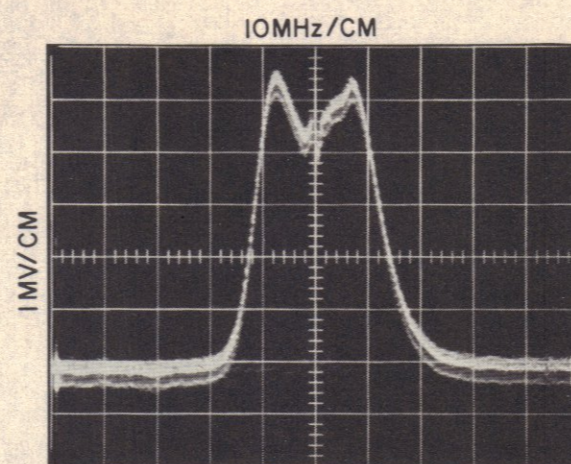
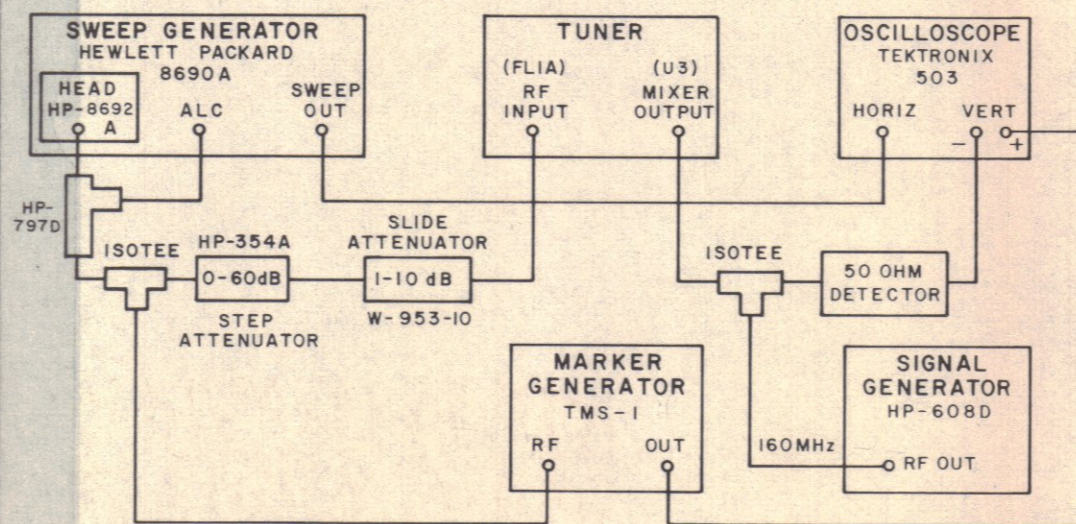

Figure 4-1e. Typical Tuning Head Overall Response
Figure 4-1d. Equipment Connections, YIG Filter and LO Tests
- (1) Determine that adequate output power is available from the VFO by performing the procedure as stated in paragraph 4.5.3.
- (2) Interconnect the test equipment as shown in Figure 4-1d, page 4-12.
- (3) Tune the TH-245B to 2000 MHz. Adjust the HP-8690A controls to sweep the 2-4.5 GHz range.
- (4) Activate the TMS-1 100 MHz markers.
- (5) Identify the 2000 MHz marker. Reduce the sweep width to expand and display the TH-245B IF response which should be approximately centered on the 2000 MHz marker. A typical overall response is shown in Figure 4-1e.
- (6) Tune the TH-245B and sweep generator through the 2000-4500 MHz band stopping every 200 MHz and checking the overall response.
- (7) The tape dial on the TH-245B should read correctly within 1% at each point and the response should be approximately centered on the marker, or close enough to center to ensure a 22 MHz minimum and 25 MHz maximum response to the 3 dB points.
- (4) Connect the equipment as shown in Figure 4-1d, page 4-12.